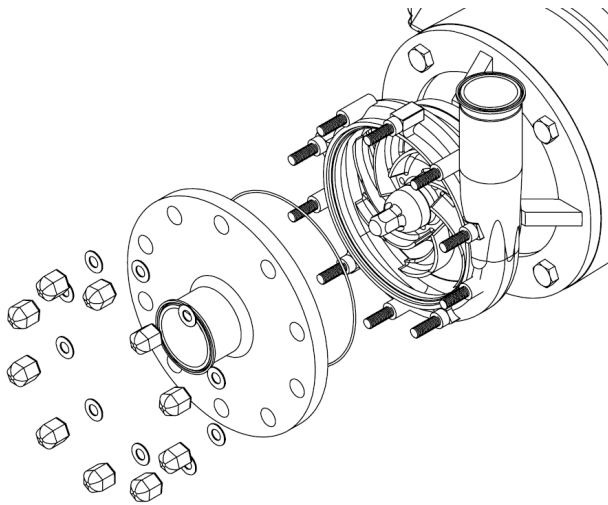

Figure 1
3. Loosen cover nuts with a 1-1/4" wrench. Remove cover nuts, flat washers (if provided), lock washers (if provided), cover and cover gasket. See figure 1.